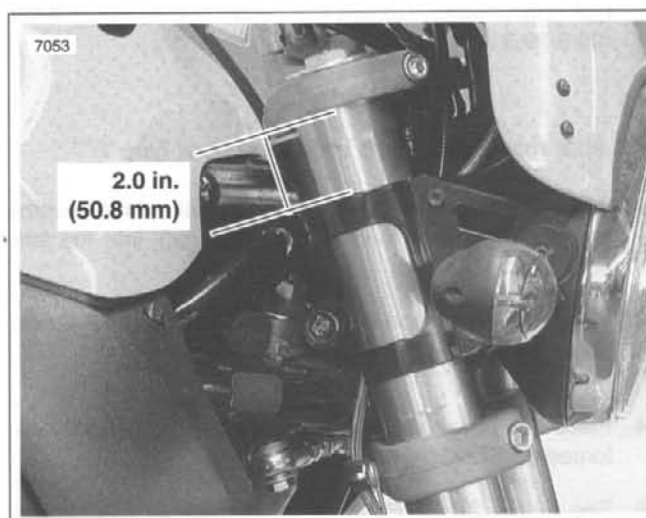

Figure 2-104. Aligning Front Forks
3. See Figure 2-104. Align and secure fork tubes.